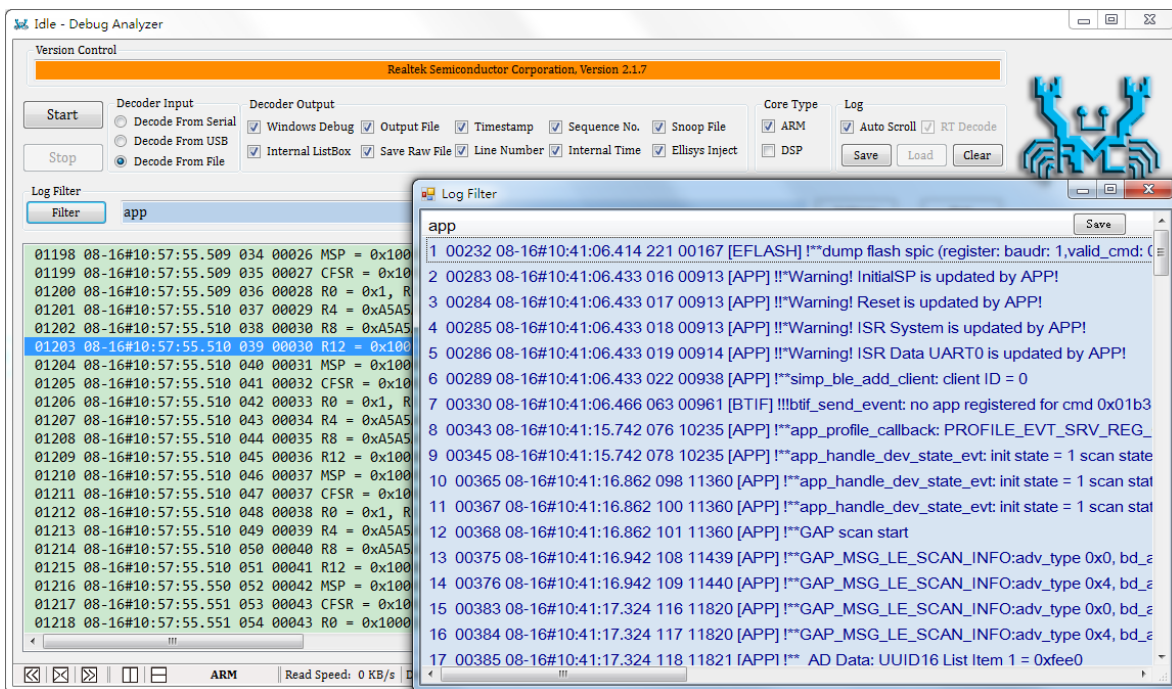

Figure 4-3 Search and Filter Logs
- Click the button “Filter” or press key “Enter” on the keyboard, the filter result is shown in Figure 4-3.